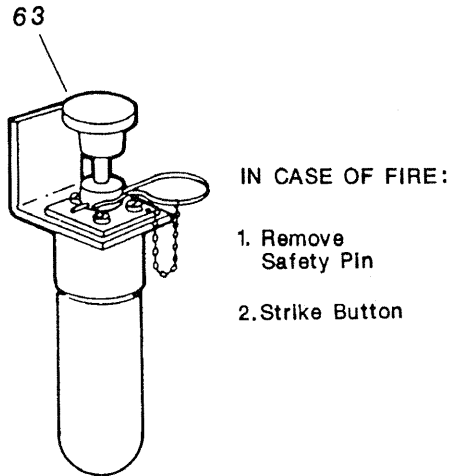

Fig. 3-17 Fire Supression System
**63. Fire Suppression System** See Fig.3-17 and 3-17A